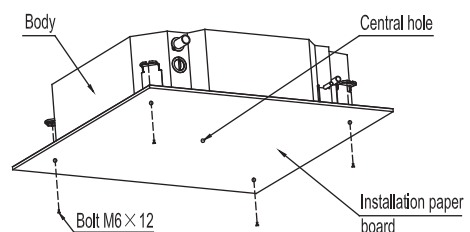

Fig. 1-6
- 2 After installing the body, please fasten the installation paper board onto the air conditioner with bolts(M6X12) to determine in advance the sizes and positions of the hole opening on ceiling. (Refer to Fig.1-6)